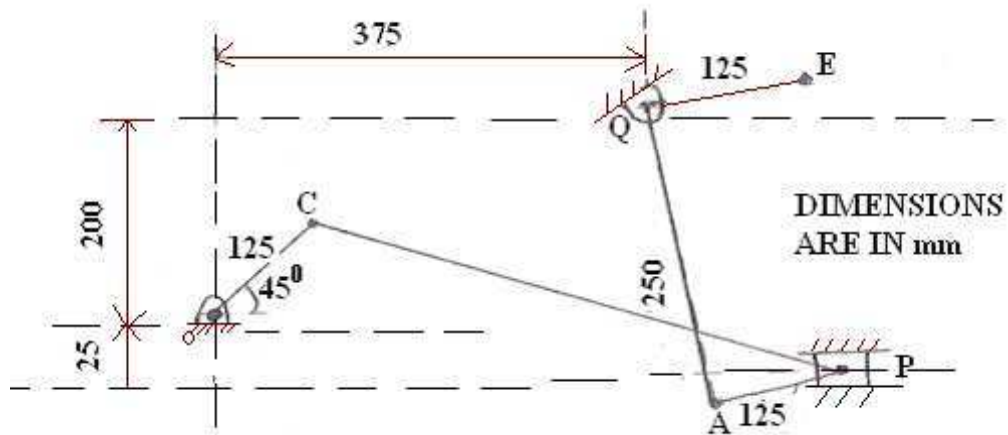

Figure 4
4. In the mechanism shown in figure4 O and Q are fixed centres. If the crank OC revolves at a uniform speed of 120 r.p.m. find the angular velocities of the links CP, PA and AQ. Use instant centre method.